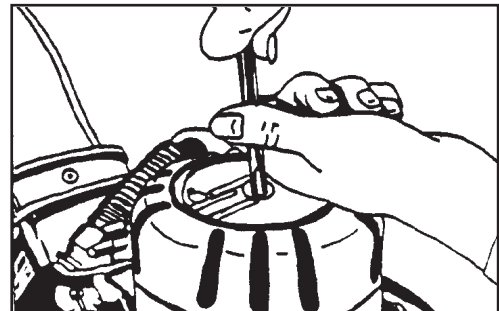

Figure 13
1. Remove the motor cover. See figure 13.